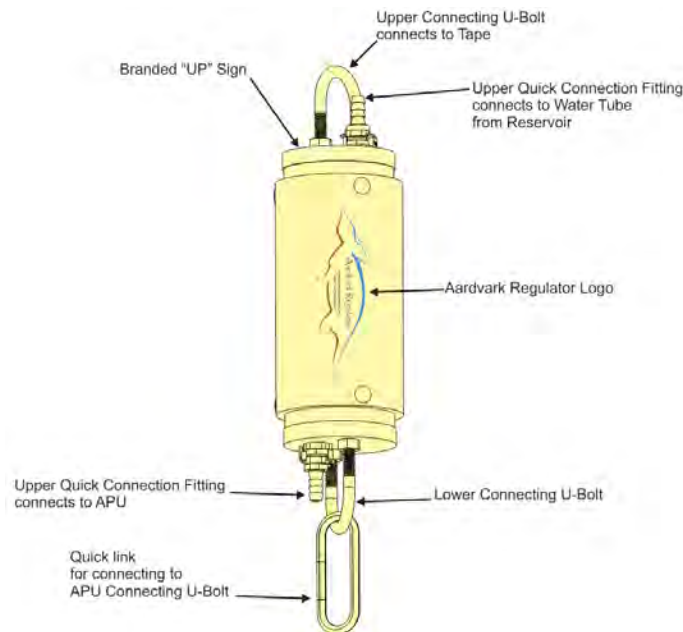
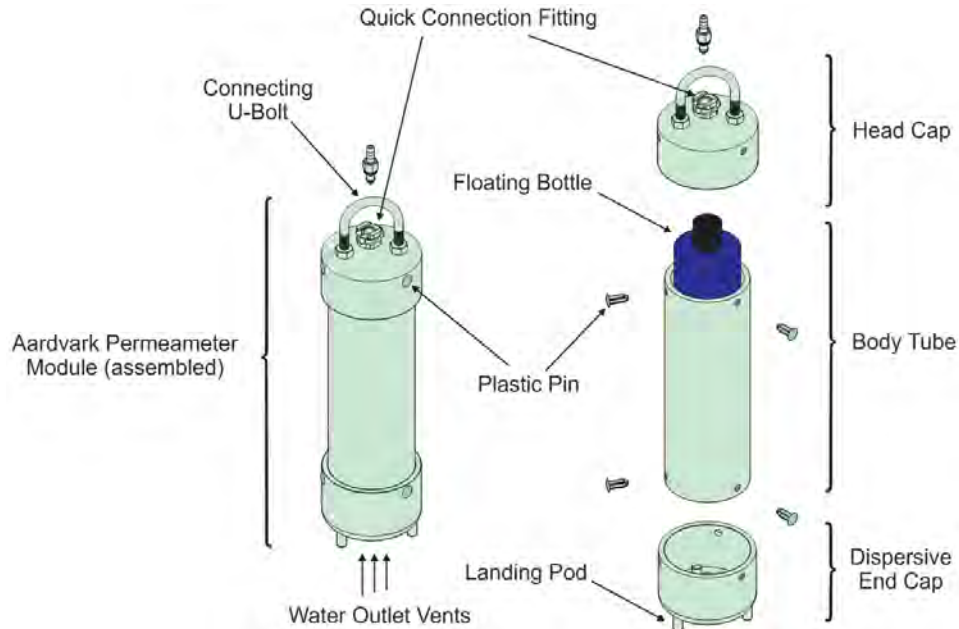

Fig. 8. Aardvark Regulator Unit
Fig. 9. Left: assembled Aardvark Permeameter Unit. Right: Major Components of APM.
**Determine input and output of the RU.** The RU is completely symmetrical, so it is very important to install the RU right side up. (The Aardvark in the Logo should be “crawling out of the hole”). The RU input tube is towards the Aardvark head in logo (up). The input tube connects the RU to the Reservoir. The RU output tube is towards Aardvark’s tail in the logo (down). The RU output (Fig. 8) connects the RU to the APM. If, for any reason, the Aardvark Regulator logo cannot be clearly seen on the RU, there is a Branded “UP” sign on the top of the RU that can be used for proper orientation.
The Aardvark Permeameter Module is shipped completely assembled and ready to use (Fig. 9 left). The Aardvark Permeameter Module has three major parts: The Head Cap, The Body Tube and The Dispersive End Cap (Fig. 9, right).
On the top of the Head assembly there is a stainless metal U-Bolt (UB) for connecting to the Suspension Line (Measuring Tape) or Quick Link of the Pressure Regulator (Fig. 8). It is used for hanging and lowering the APM in a Borehole. The Quick Connection (QC) provides an easy and secure connection between the Head Assembly and Connecting Tubing (Fig. 9 right).